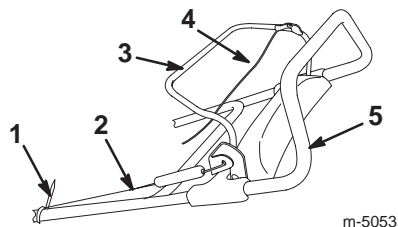

Figure 2
1. Cut the plastic tie that secures the rotor control cable (Fig. 2) to the handle.
Important Ensure that the rotor control cable and the traction drive cable are properly adjusted (Fig. 2). Refer to Adjusting the Rotor Control Cable on page 12, and to Adjusting the Traction Drive Cable on page 13.